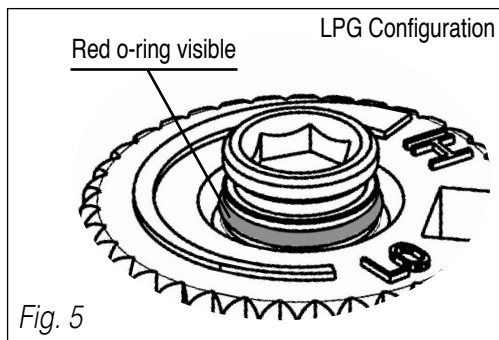

Fig. 5
- Verify that if the conversion is from NG to LPG, the screw must be re-assembled with the red o-ring visible (fig. 5).